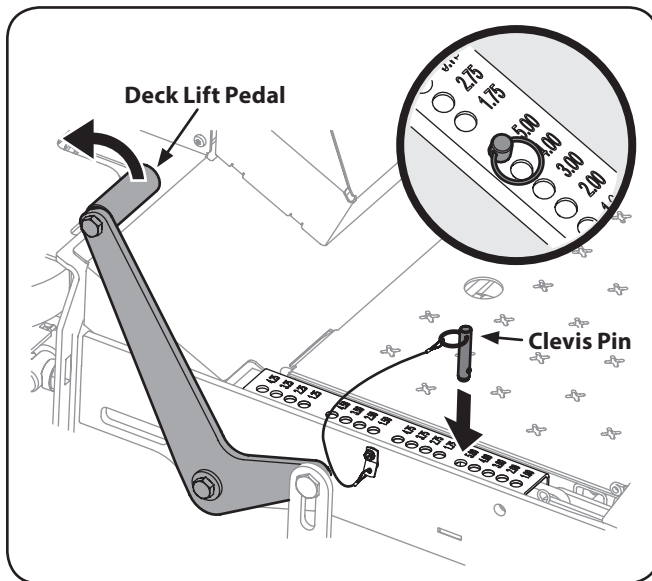

Figure 5-10
1. Use the deck lift pedal to raise the deck to its highest position, place the clevis pin attached to the tractor into the desired index hole on the deck height index, then slowly release the deck lift pedal. See Figure 5-10.